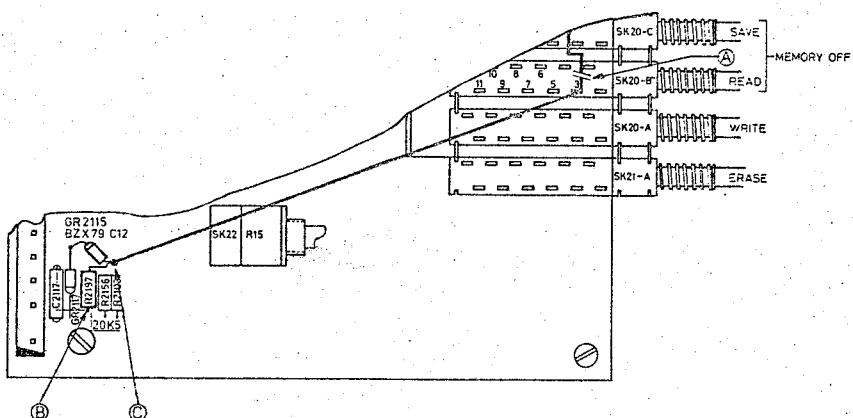

Fig. 1. Part of variable persistence and storage unit.
2. Interrupt the track (on the track-side of the p.w.b.) between point 3 of SK20B (READ) and the anode of GR2117 as indicated in fig. 1 (A)
4. Solder one side of a resistor of 20k5 (5322 116 55255) on the point, which is connected with C2117 as indicated in fig. 1 (B) (on the component side of the p.w.b.)
5. Solder between the resistor of 20k5 and the anode of the zenerdiode GR2115 a zenerdiode (GR2115) BZX 79 C12 (4822 130 34197). The cathode of GR2115 to the anode of GR2117 (see fig. 1)
6. Mount an interconnection wire between the anode of GR2115 (fig. 1 (C)) and point 3 of the switch SK20B (READ)